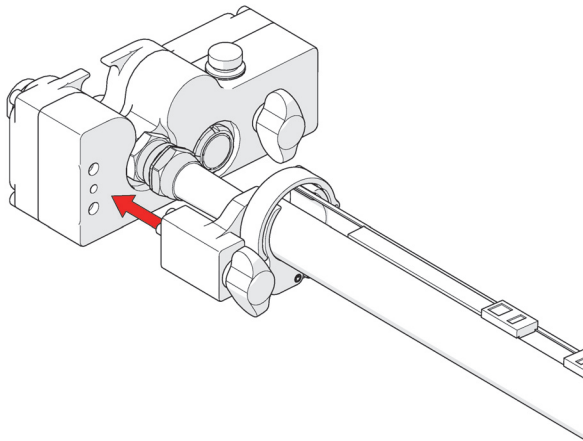

Figure 2-125 Align with umbilical
1. Align the cable management clamp with the appropriate mounting position on the umbilical (see Figure 2-125 on page 144).